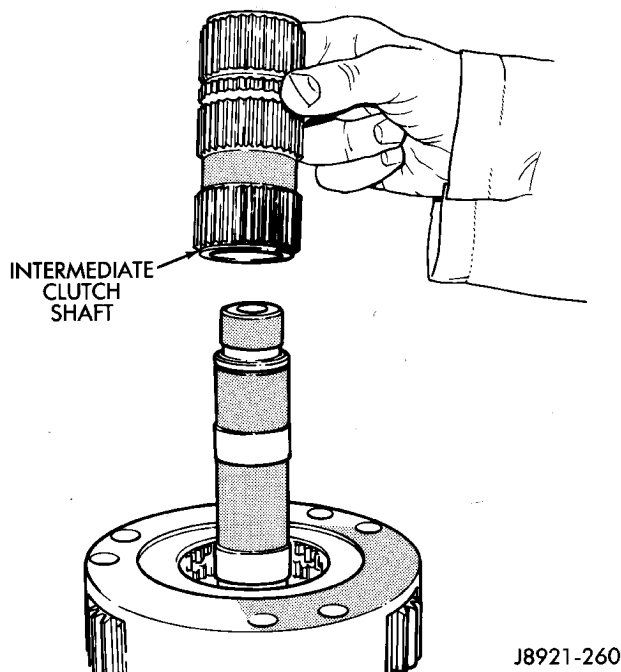

Fig. 32 Intermediate Clutch Shaft Removal
- (9) Remove intermediate clutch shaft (Fig. 32).